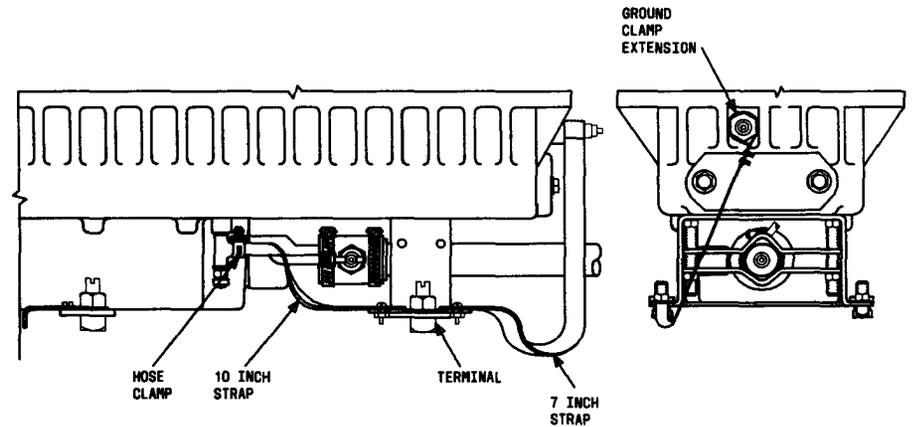

Fig. 40—♦Installed D181079 Kit of Parts♦
**8.02** The D-181079 kit of parts consists of two ground straps, two clamps, and one terminal and is used to bond the 818-/819-type repeater cases to the manhole racking as shown in Fig. 40. The kit is only required if the repeater case was not bonded through the splice case to manhole ground during the original installation. All cases manufactured after September 15, 1980, do not require the application of this kit.♦